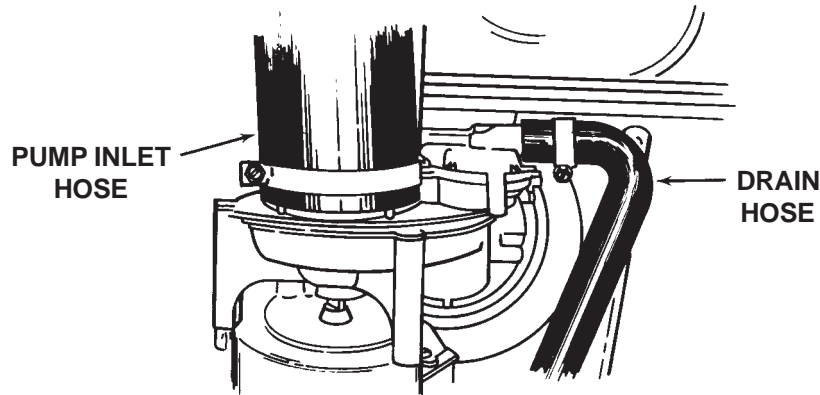

Fig. 1-7
4. Disconnect the drain hose from the drain valve by loosening the Hex-head screw on the hose clamp. (Fig. 1-7)
5. Disconnect the pump inlet hose from the pump and motor assembly. (Fig. 1-7)